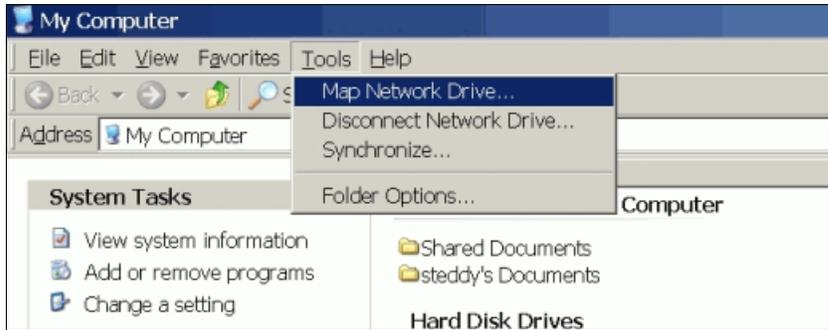

Figure A-6 Map Network Drive
- a. Click **Tools** → **Map Network Drive**. See Figure A-6.